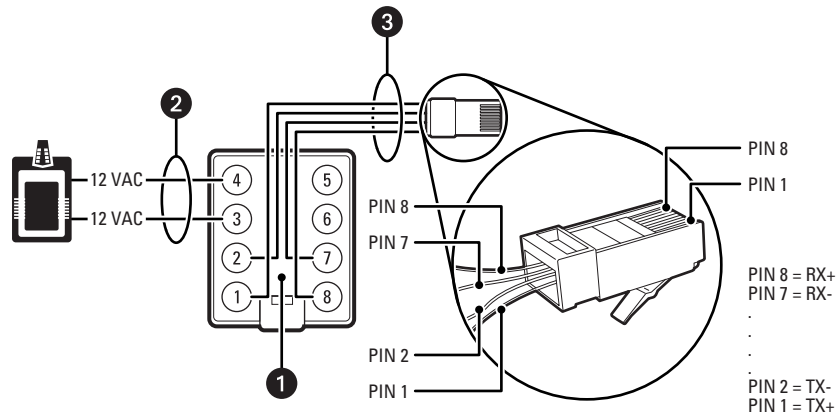

Figure 66. KBDKIT Wall Block and RJ-45 Cable Wiring
You must set up the KBDKIT first. Figure 66 illustrates how to wire the user-supplied data cable and connect the 12 VAC transform to the wall block. Refer to the Parts List for information about the items required to connect the KBD300A to the DX8100. The only item not included in the KBDKIT is the data cable. The KBDKIT Series Remote Keyboard Wiring Kit manual is included in the kit.
- b. Wire the RJ-45 pigtail to the wall block shown in Figure 66 on page 63).